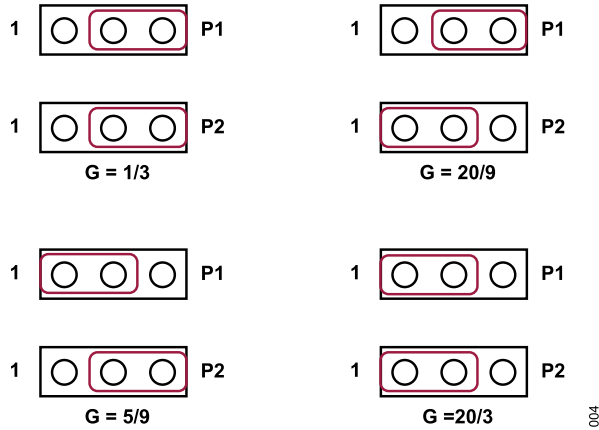
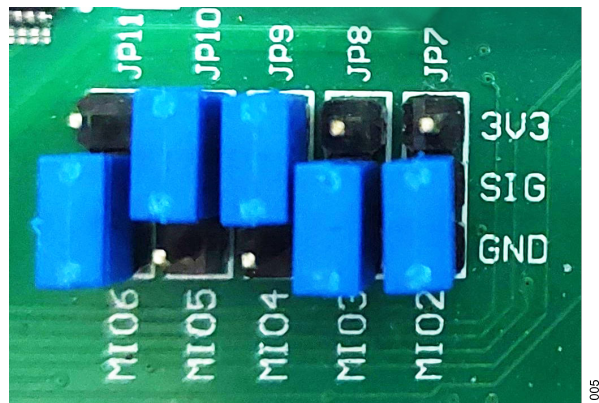
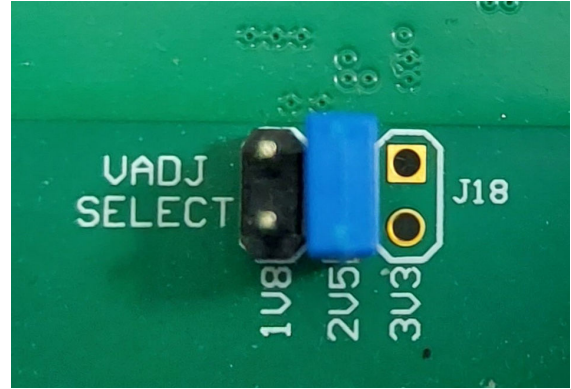

Figure 4. P1 and P2 Settings
Figure 5. Zedboard Boot Link Configuration
Figure 6. Zedboard VADJ Link Setting
Multiple link options must be set correctly for appropriate gain configuration of the EVAL-ADAQ4216-FMCZ board. Table 3 and Figure 4 show the different P1 and P2 link configurations with the corresponding analog front-end gains. Remove R37 and R39 when the gain is manually controlled by P1 and P2 jumpers and not through the software.
Ensure that the Zedboard boot configuration jumpers are set to use the SD card, as shown in Figure 5. To avoid potential issues, ensure that the Zedboard VADJ SELECT = 2.5V, as shown in Figure 6.
1. Ensure that all configuration links are in the appropriate positions for both the EVAL-ADAQ4216-FMCZ board and the Zedboard. For more details, see Figure 4 to Figure 6.